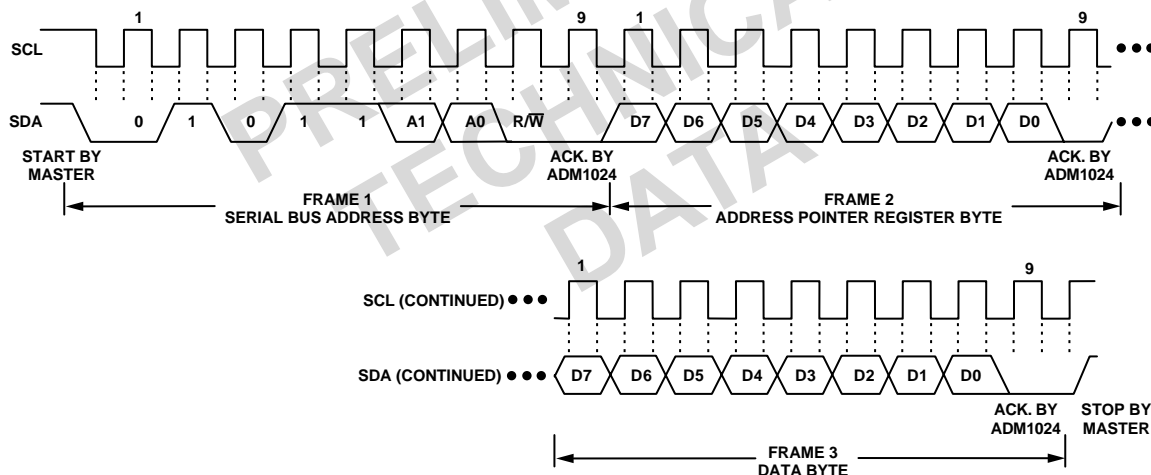

Figure 2a. Writing a Register Address to the Address Pointer Register, then Writing Data to the Selected Register
This is illustrated in figure 2a. The device address is sent over the bus followed by R/\overline{W} set to 0. This is followed by two data bytes. The first data byte is the address of the internal data register to be written to, which is stored in the Address Pointer Register. The second data byte is the data to be written to the internal data register.
- In figures 2a to 2c, the serial bus address is shown as the default value 01011(A1)(A0), where A1 and A0 are set by the three-state ADD pin.